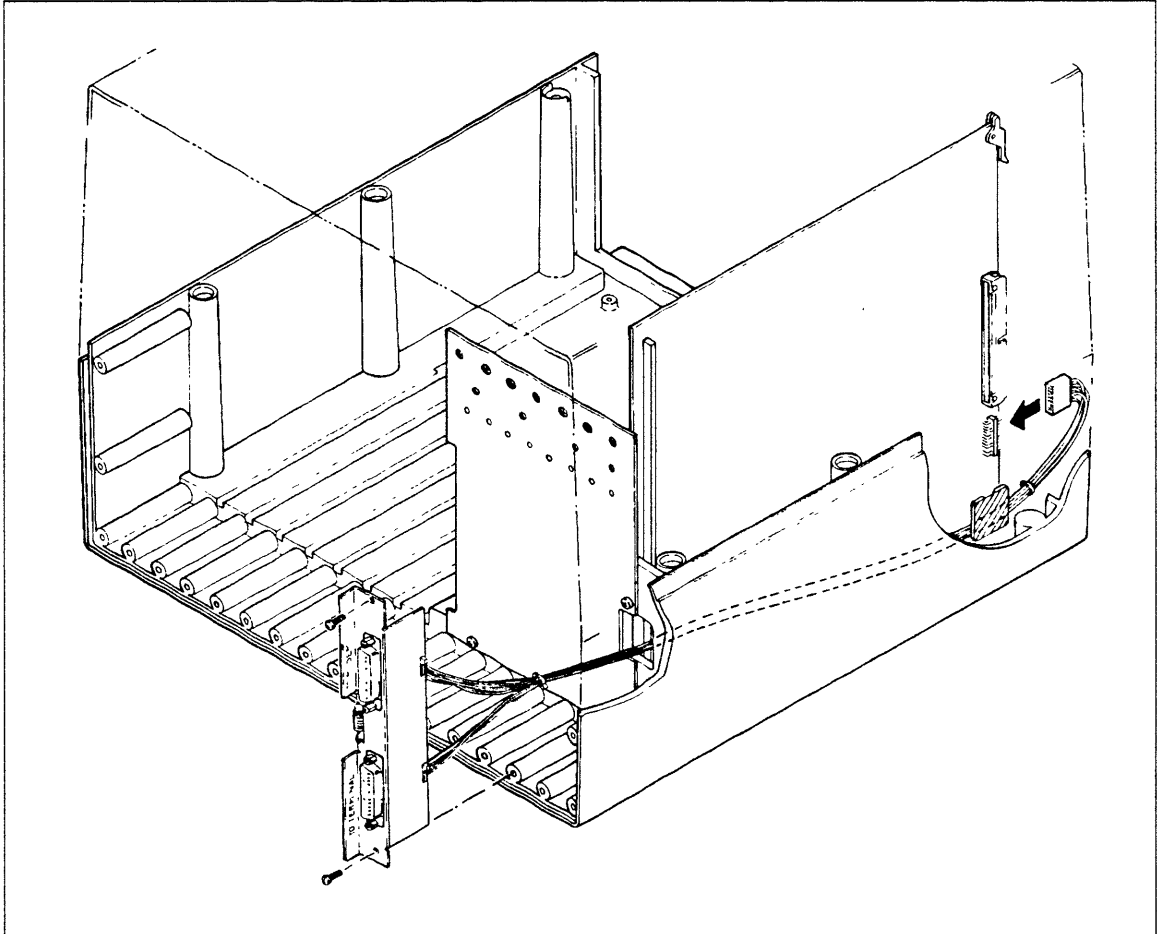

Figure 3-13. Routing the MCO Cable
3. Refer to figure 3-13 and route cable from the back of the cabinet to the front, by passing it through the rectangular hole in backpanel.